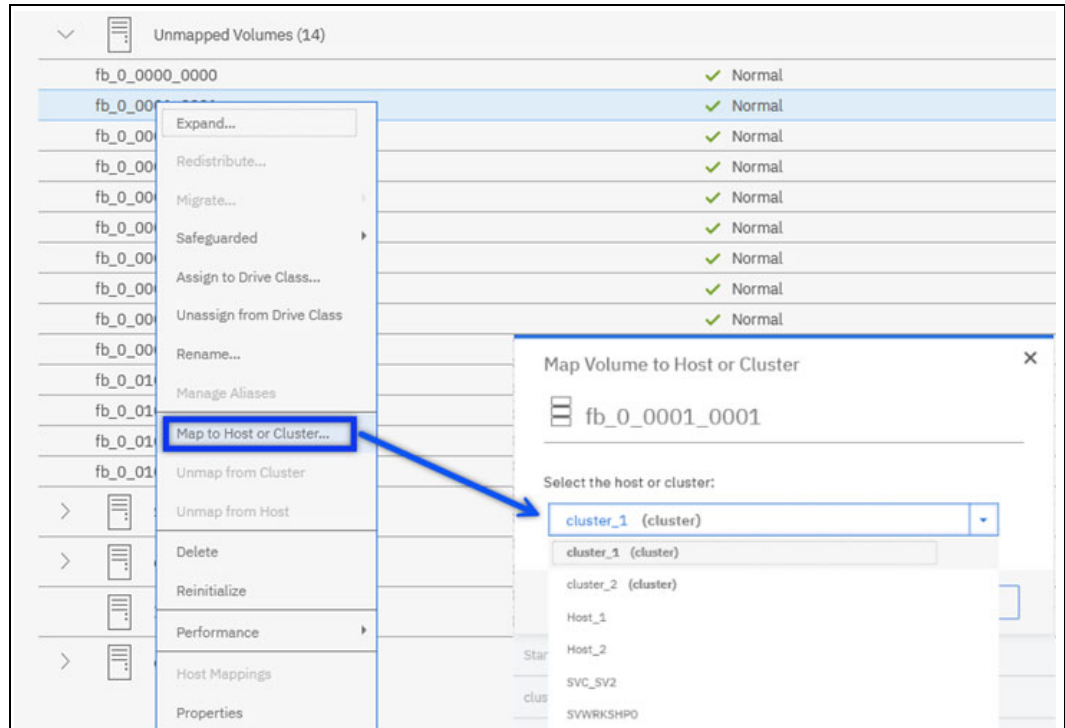

Figure 9-64 Mapping unmapped volumes to a host or cluster
2. The Volumes by Hosts menu opens. Select the volumes to map from the **Unmapped Volumes** list, as shown in Figure 9-64 on page 272. From the Actions tab, or by right-clicking, select **Map to Host or Cluster**.
3. The Map Volume to Host or Cluster window opens. Select the host or cluster from the list of configured stand-alone hosts and clusters, as shown in Figure 9-64, and then click **Map**.